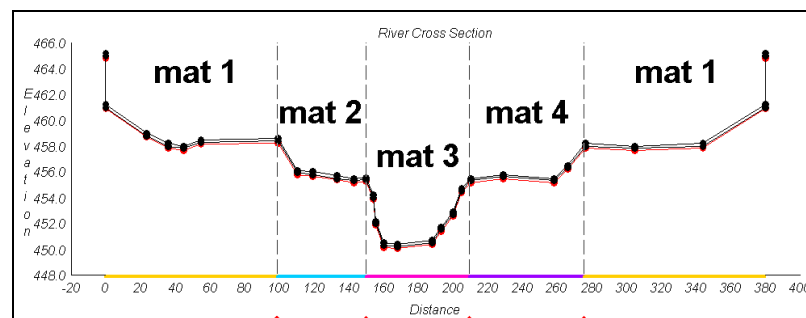

Figure 15-4 The materials to assign.
4. Repeat this process, highlighting the material as shown in Figure 15-4.